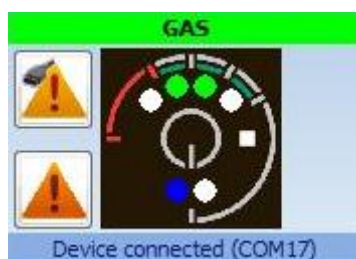

Fig. 3.3 Virtual panel with state bar and triangle informing about errors.
- State of the gas ECU bar – indicates current state of the gas ECU (Fig. 3.3).
- Virtual panel – work like a real control panel: clicking on the panel image using left mouse button switches from petrol to gas and from petrol to gas, coloured diodes indicate the gas level. (Fig. 3.3).
- Program state bar – indicates the state of the program (device connected, working off-line1, updating firmware) (Fig. 3.3).
If gas controller registers any errors the yellow flashing triangle appears next to the virtual panel (Fig. 3.3). Left-clicking on it opens Diagnostic errors window in Diagnostics tab. A similar triangle will appear in the case of a trouble code for OBD.